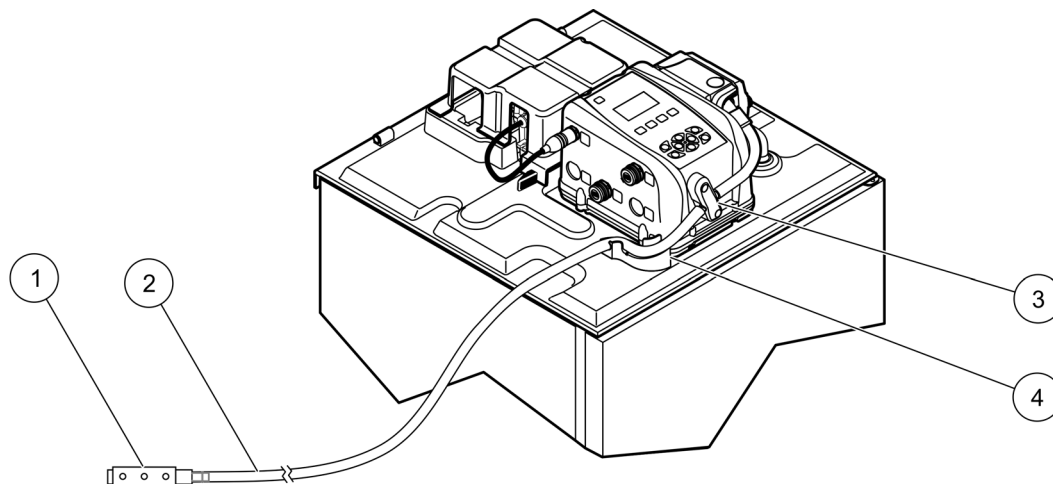
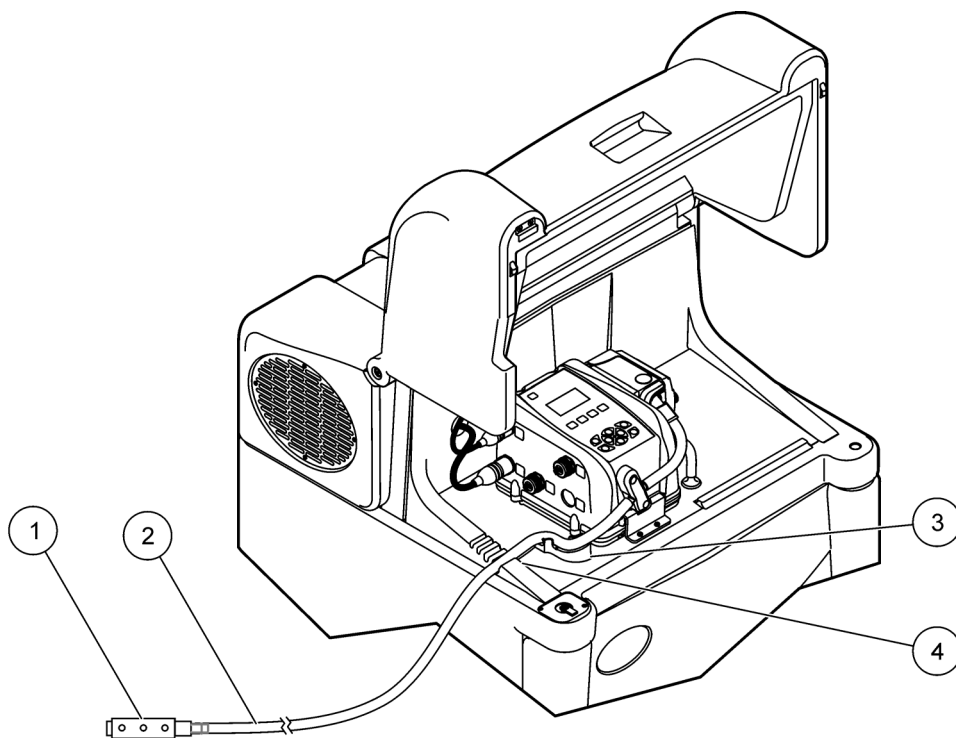

Figure 18 Refrigerated sampler intake tubing installation
Figure 19 All weather refrigerated sampler intake tubing installation
2. Press the tubing into the strain relief (Figure 18 or Figure 19).